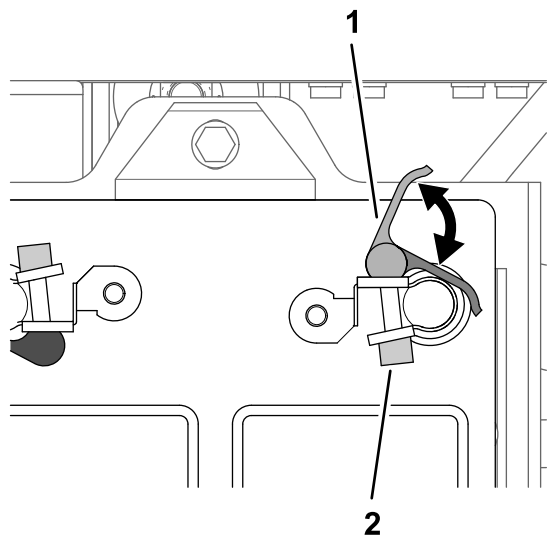

Figure 208
2. Open the latch handle of the quick-connect clamp with the black handle (Figure 208).
4. Close the latch handle of the quick-connect clamp (Figure 208).